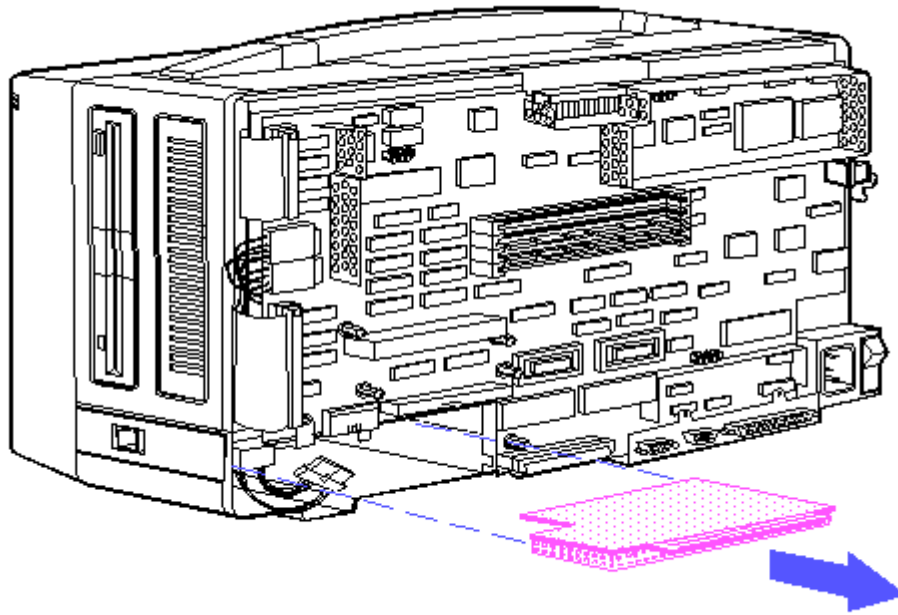

Figure 8-24. Removing a Memory Expansion Board
6. Slide the memory expansion board out of the options compartment and set it aside (Figure 8-24).